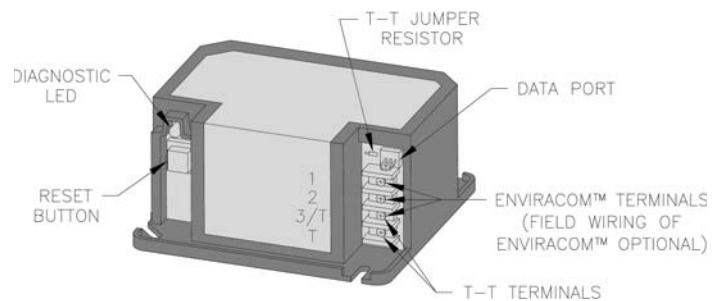

Figure 28: R7184 Terminals, LED and Reset Button
- i. The R7184 is a microprocessor-based control. The indicator light provides diagnostic information for lockout, recycling and patented cad cell status. There is a manual reset button to exit the Lockout Mode and enter the Idle Mode (see Figure 28).
- v. T-T Jumper: Select models have pre-installed T-T jumper resistor. To remove, use side-cutting pliers to cut jumper (See Figure 28).